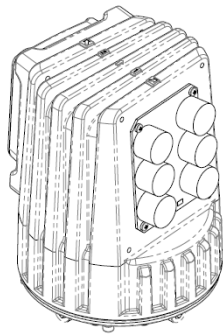

Figure 5-4
- Twist off four screws which fix front glass junk ring, and remove front glass junk ring. (See Figure 5-4)